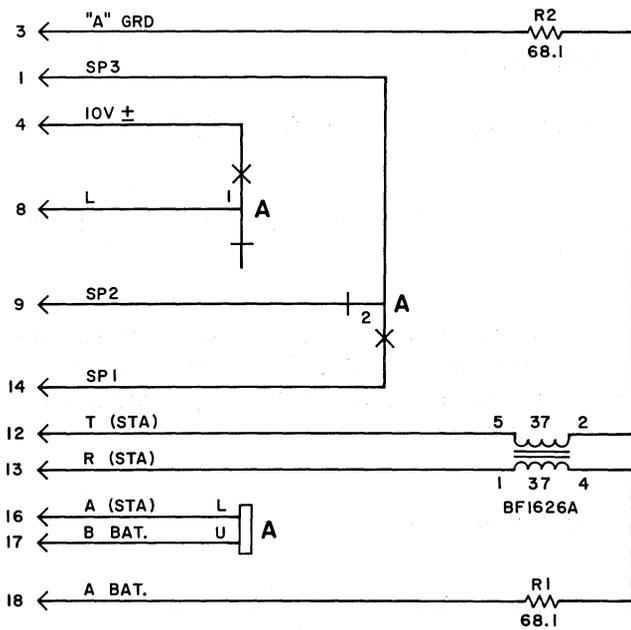

Fig. 2 — Functional Schematic Drawing of 401A KTU
4.01 See Fig. 2 for the lead designations assigned to the contacts on the plug-end of the KTU.